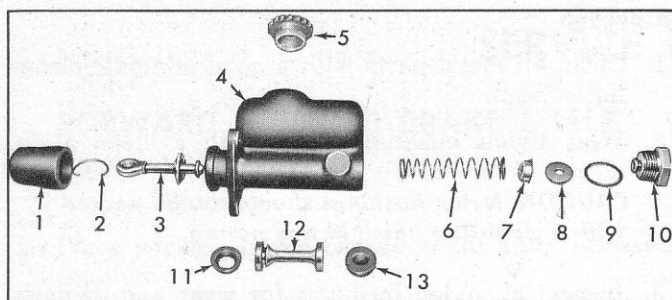

Fig. 4—Main Cylinder—Exploded View
1. Remove boot from main cylinder (fig. 4).